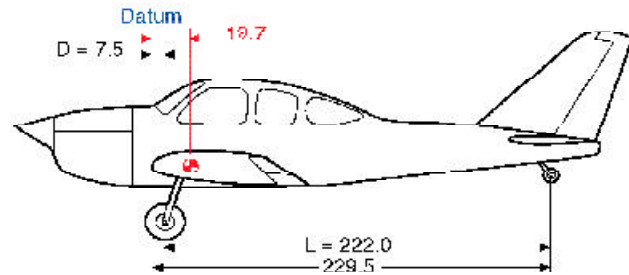

Figure 3-7. The datum of this tail wheel airplane is 7.5 inches forward of the wing root leading edge.
The distance (D) between the datum of the airplane in Figure 3-7 and the main-gear weighing points is 7.5 inches, the weight of the tail wheel (R) is 67 pounds, and the distance (L) between the main-wheel and the tail wheel weighing points is 222 inches. The total net weight of the airplane (W) is 1,218 pounds.